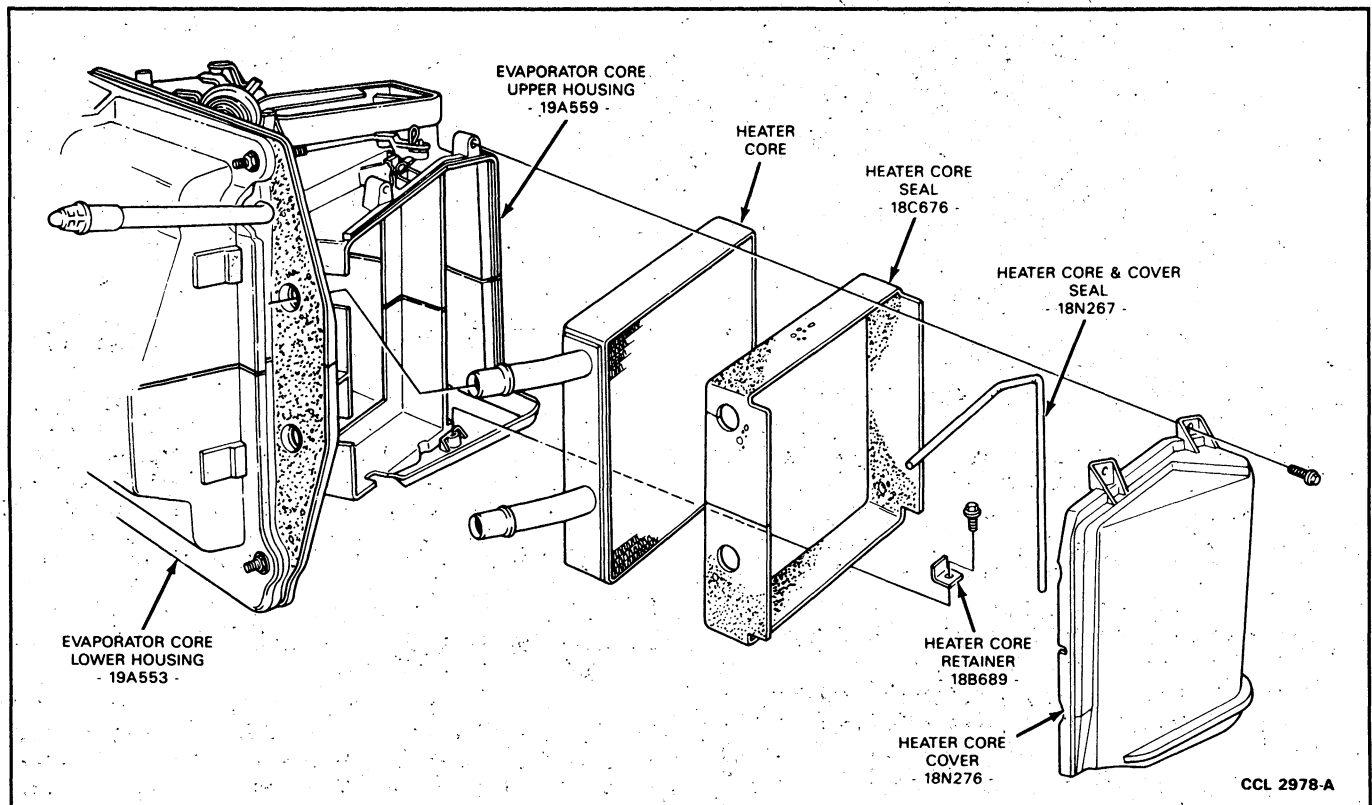

FIG. 29 Heater Core and Seal Removal
3. Remove the four screws from heater core cover located on the LH side of case underneath instrument panel (Fig. 29). Remove cover.